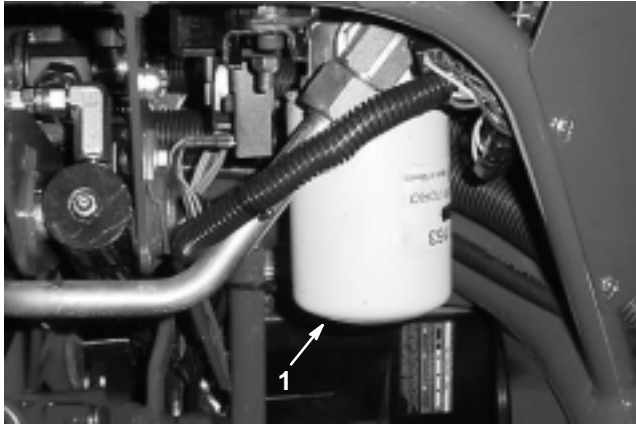

Figure 50
- Clean the area around the filter mounting area (Fig. 50). Place a drain pan under the filter and remove the filter.